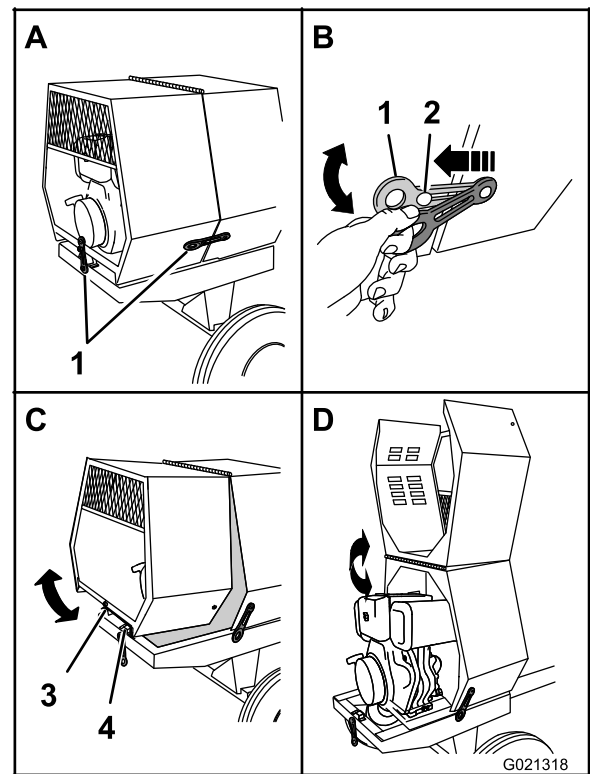

Figure 20
3. At the back of the machine where the rear cowl meets the frame of the machine, grasp the ring of the latch and pull it off from the latch anchor on the cowl (Figure 20).
4. Rotate the rear cowl up and forward until it is fully positioned on top of the front cowl (Figure 20).
1. At the side of the machine where the front cowl and rear cowl meet, grasp the ring of the latch and pull it off from the latch anchor on the rear cowl (Figure 20).
1. Rotate the rear cowl rearward and down until the receiver at the bottom center of the cowl is aligned with the V-fitting and flush on the frame of the machine (Figure 20).
4. Repeat step 3 on the opposite side of the machine (Figure 20).